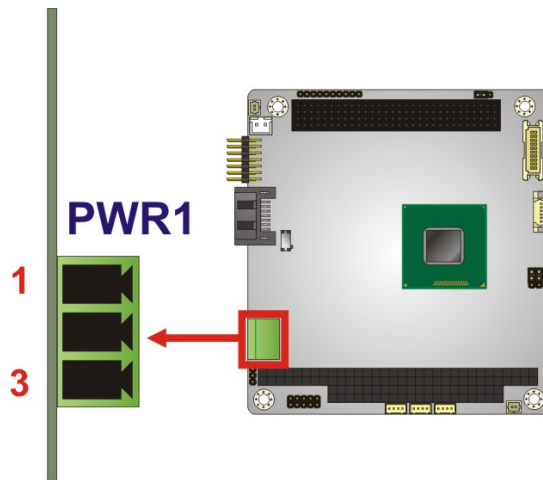

Figure 3-16: Power Connector Location
- CN Location:** See **Figure 3-16**